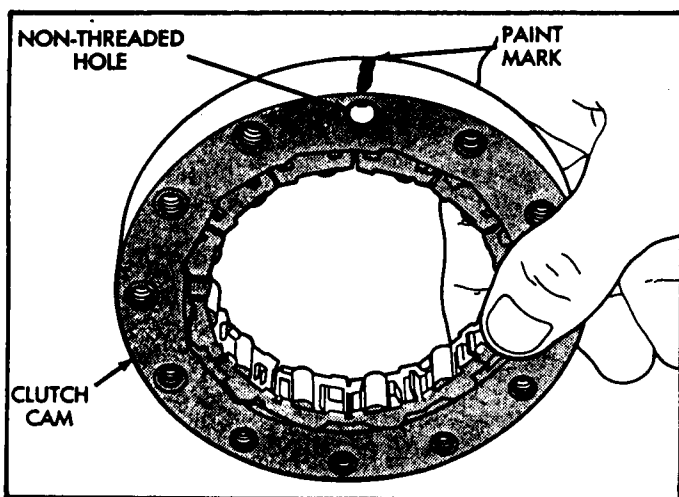

Figure 34
10. Examine the bolt holes in the overrun clutch cam. Note that one hole is not threaded (See Figure 34).
12. This hole should have been marked with paint before disassembly, as shown in Figure 34, with a corresponding mark on the case.
13. Notice also that the overrunning clutch cam threaded holes are slightly countersunk on one side (See Figure 34).